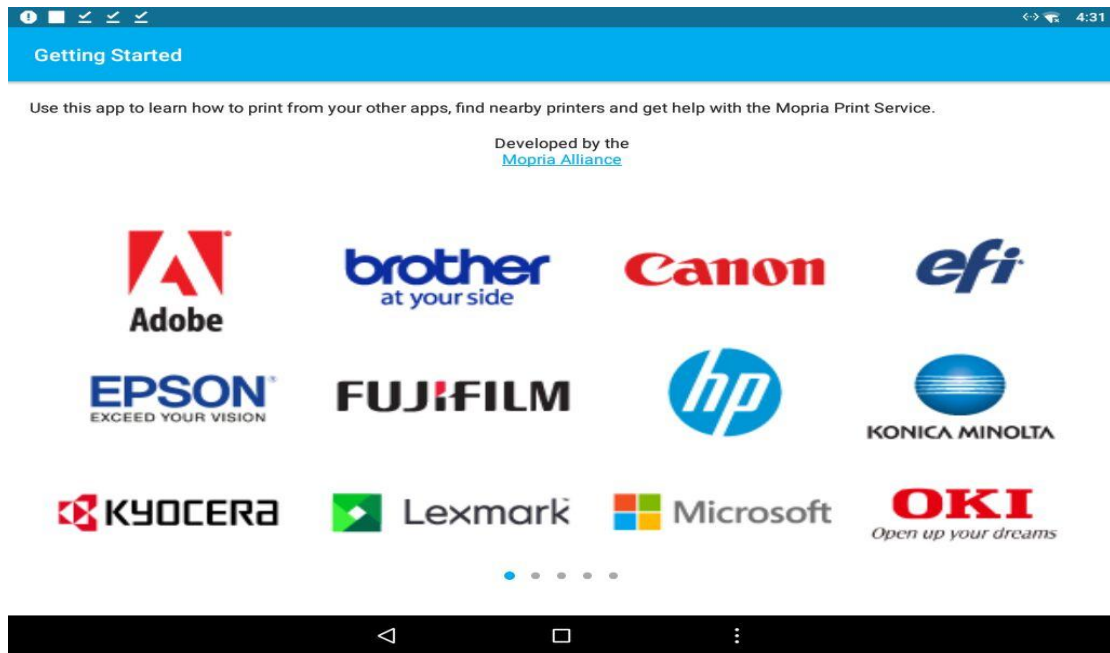
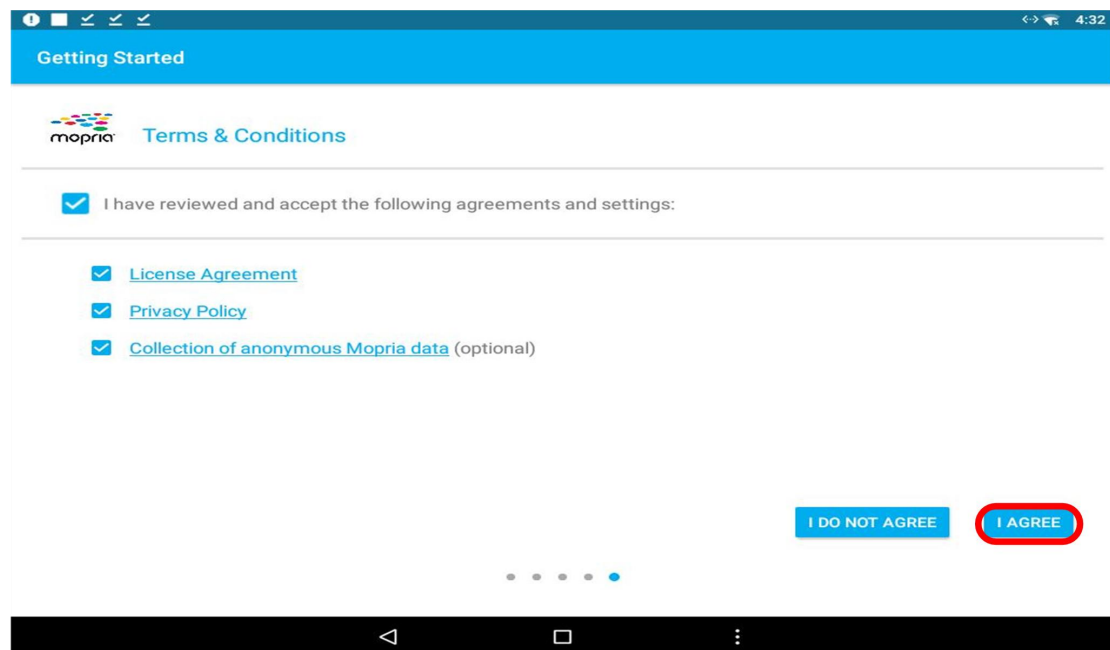

Figure 6
Figure 7
3. Open the installed printing software, as shown in Figure 6. Go to the last page and check "**Agree**" license agreement and privacy policy. Click "**I AGREE**" to start using the software, as shown in Figure 7.